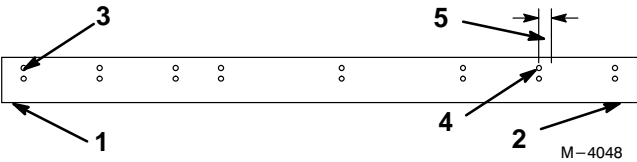

Figure 1
- A. Orient the wiper as shown in Fig. 1. From the left hand end, count over to the seventh set of holes. Measure 1-1/2 inches from the center of these holes toward the right hand end and make a mark. Cut and remove excess material beyond this point.
- A. Orient the wiper as shown in Fig. 1. Use the wiper without any modification.